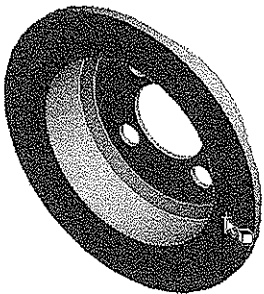

Figure 11-7 Selecting the front face for applying Temperature load
4. Select the front face of the model, as shown in Figure 11-7.